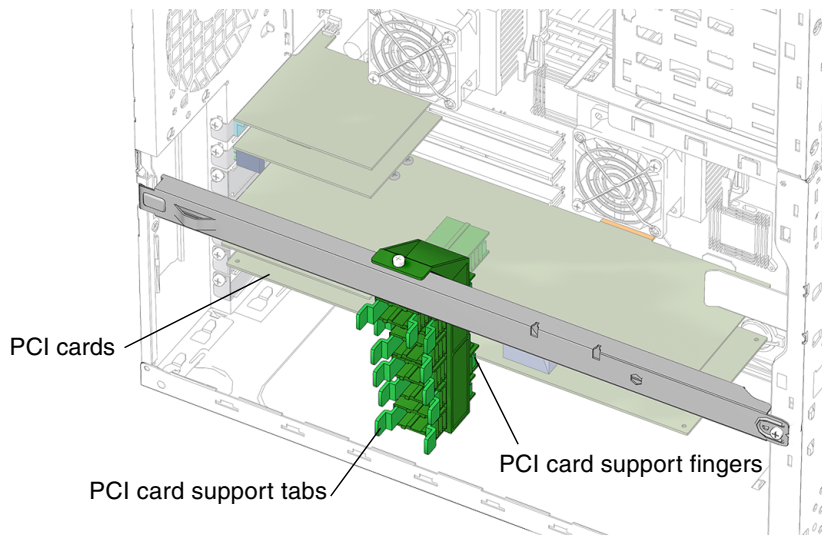

FIGURE 13-49 Aligning the PCI Card Support Tabs
6. Secure the PCI cards with the PCI card support fingers (FIGURE 13-49).